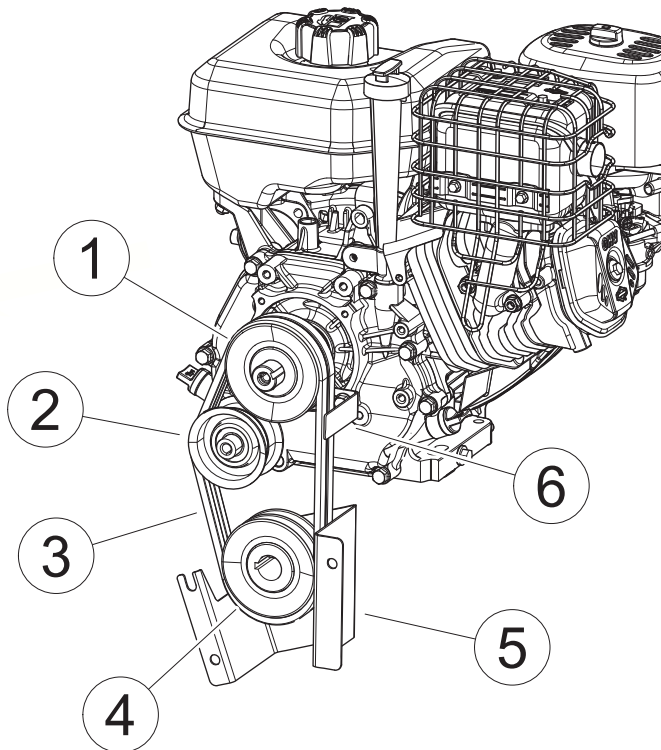

Figure 5.11, Belt Drive
2. Loosen set screws and using a straightedge align the engine pulley (1) with the idler pulley (2) and the rotor pulley (4) with the engine pulley (1). See Figure 5.11. Tighten all set screws.
3. Engage the rotor with the belt (3) in place and check idler engagement. See Figure 5.11. The idler pulley should impact the belt in the center of the pulley. All pulleys must be in perfect alignment. Torque pulley set screws to 160 in-lbs.